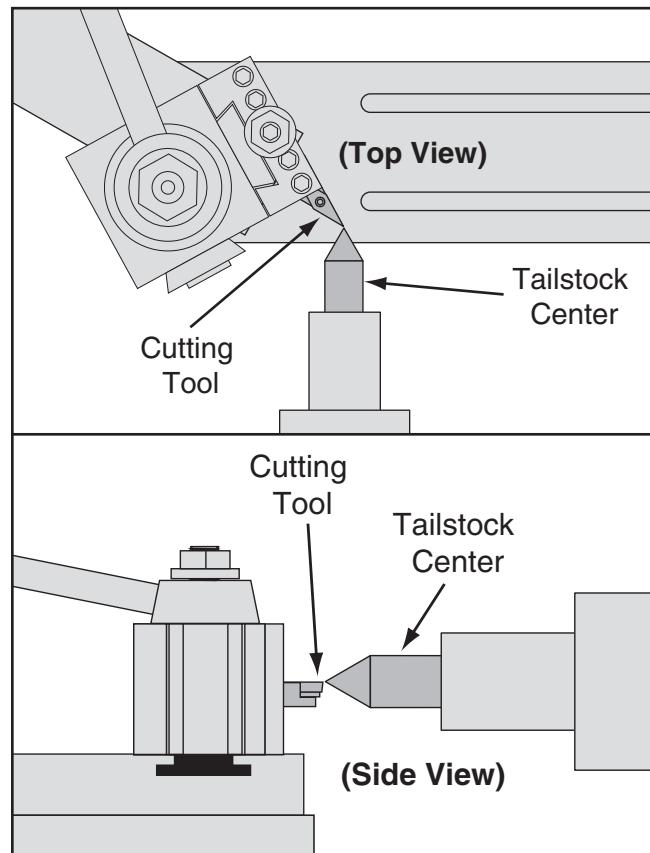

Figure 57. Cutting tool aligned to the tailstock center.
4. Adjust height of cutting tool tip to meet center tip, as shown in **Figure 57**.